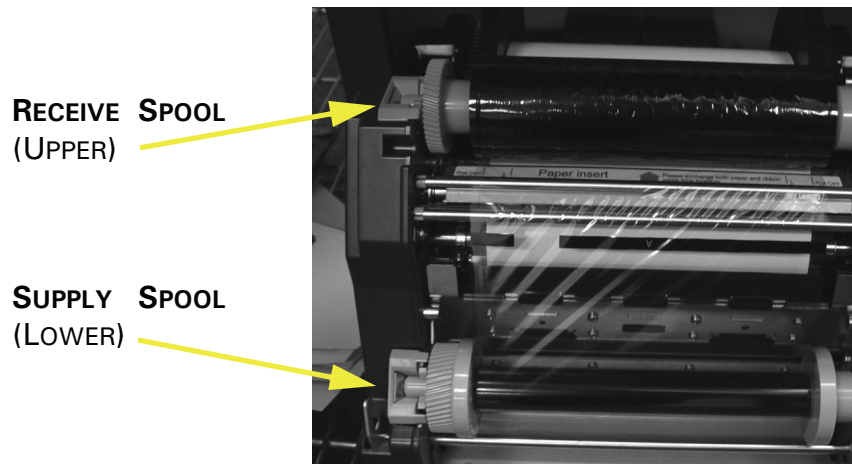

Figure 15. Ribbon Spool Placement
3. Remove the ribbon from the printer noting the placement of the receive and supply spools (see Figure 15).